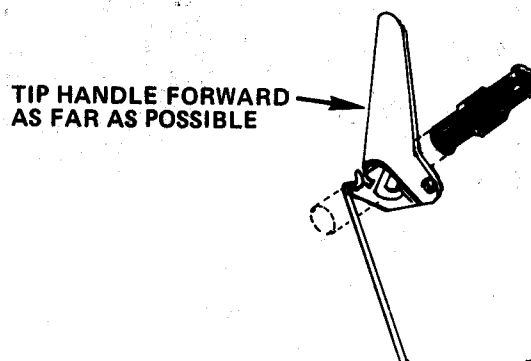

FIGURE 3
- Position the clutch handle so that it is all the way up. See Figure 3. Tighten the tractor clutch rod in the rod adapter with the setscrew.